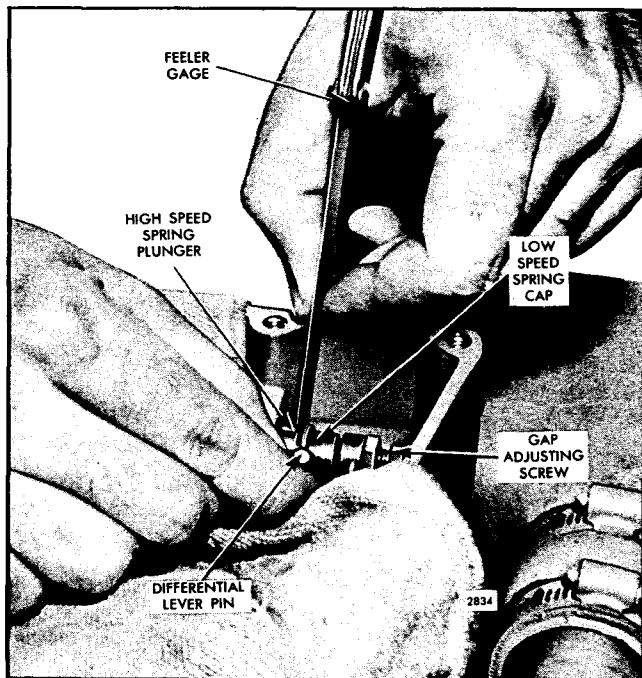

Fig. 1 - Adjusting Governor Gap
6. Check the gap between the low speed spring cap and the high speed spring plunger (Fig. 1) with a .0015" feeler gage. If the gap setting is incorrect, reset the gap adjusting screw.